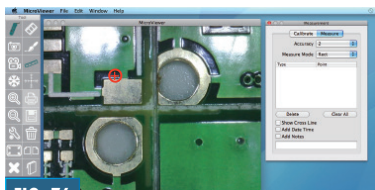

FIG. 76
3. Click and hold the mouse button at corner of the object (Fig. 76).